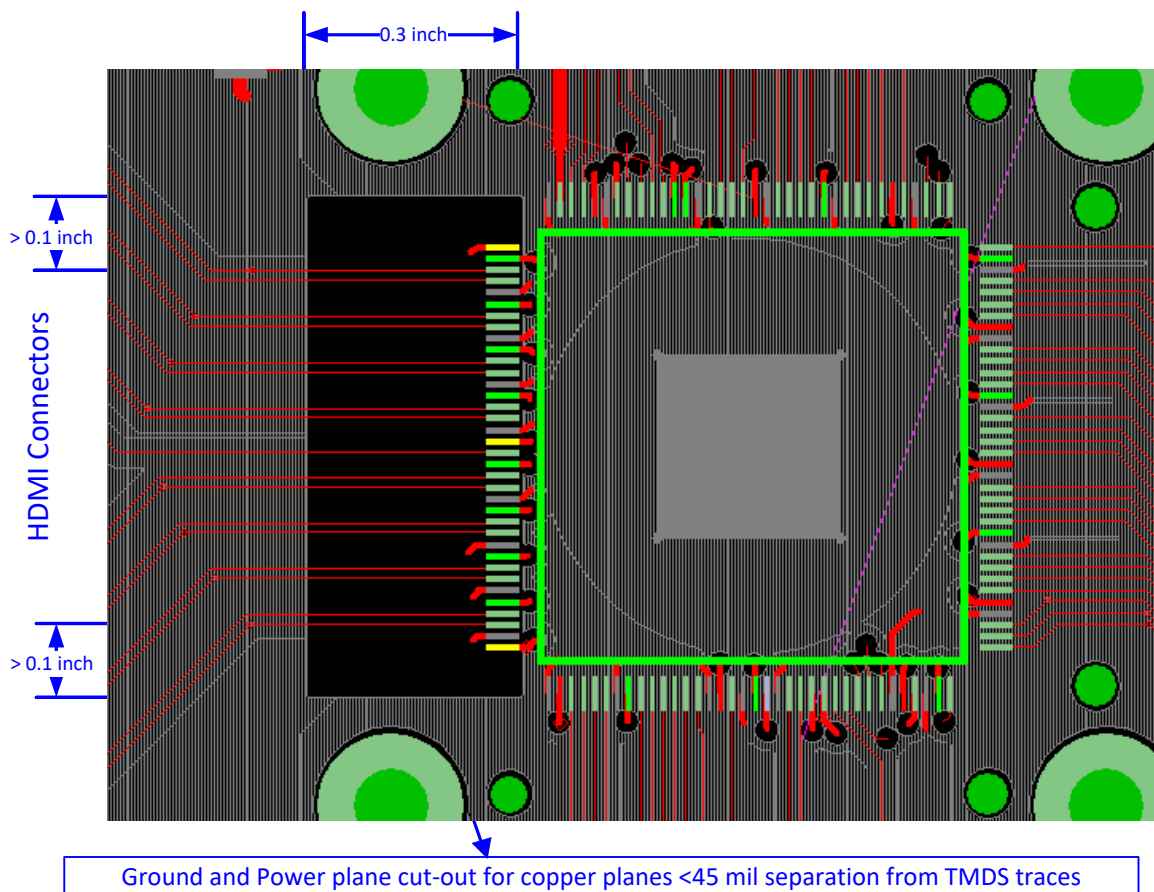

Figure 9.2. Cut-out Reference Plane Dimensions
2. Cut out all copper planes (ground and power) that are less than 45 mils underneath the TMDS traces near the receiver with dimensions as shown as shown in Figure 9.2.